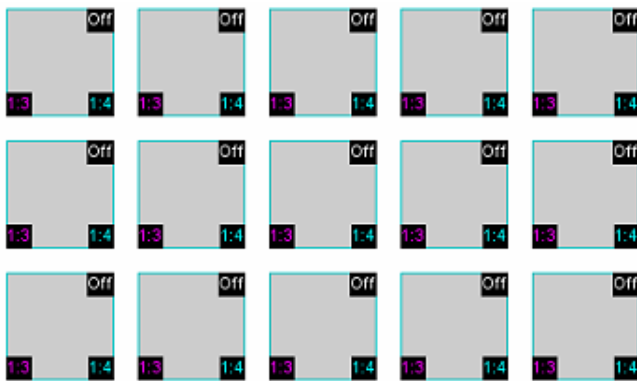

FIG. 394 Buttons selected for Power Assign - Channel Codes cleared
5. Click **Assign**. The figure below shows the same group of buttons, with their Channel Codes cleared (FIG. 394):